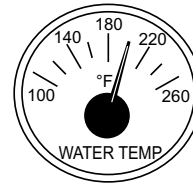

Figure 46. Coolant Temperature Gauge
9. The **coolant temperature gauge** (Figure 46) will indicate the coolant temperature. Under normal operating conditions the coolant temperature should be between 180°~225°F (75°~95°C) (**Green Zone**).